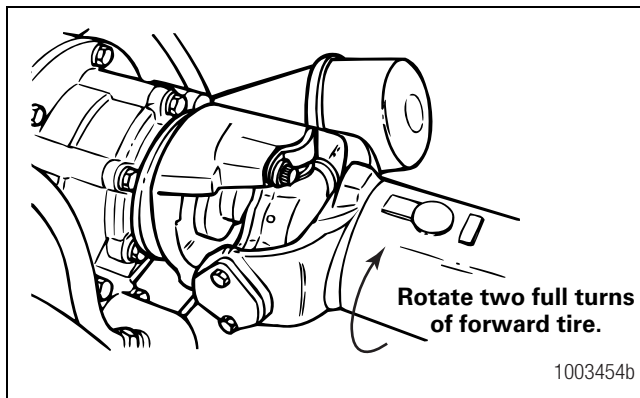

Figure 4.17
- Turn the forward driveshaft in one direction by hand until the forward tire completes two rotations. Figure 4.17. The forward tire must rotate two times only. If the forward tire rotates more than or less than two rotations, the angle measurements you make in Step 7 will be inaccurate.